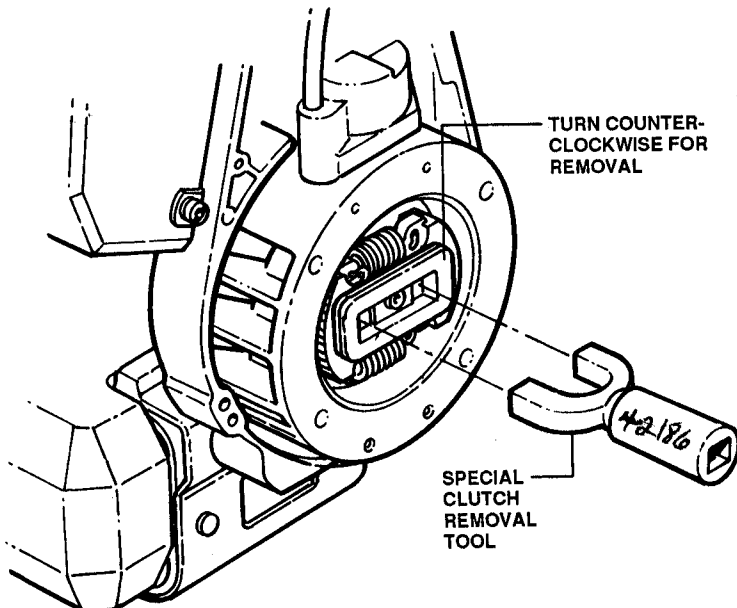

FIGURE 6
- Clutch removal is made easy with special tool, part number 42186. First, remove the spark plug and insert a knotted piece of rope into the cylinder to act as a piston stop. Remove clutch in a counter-clockwise direction. Any portion of the clutch may be serviced separately by removing the two clutch springs. See Figure 6.